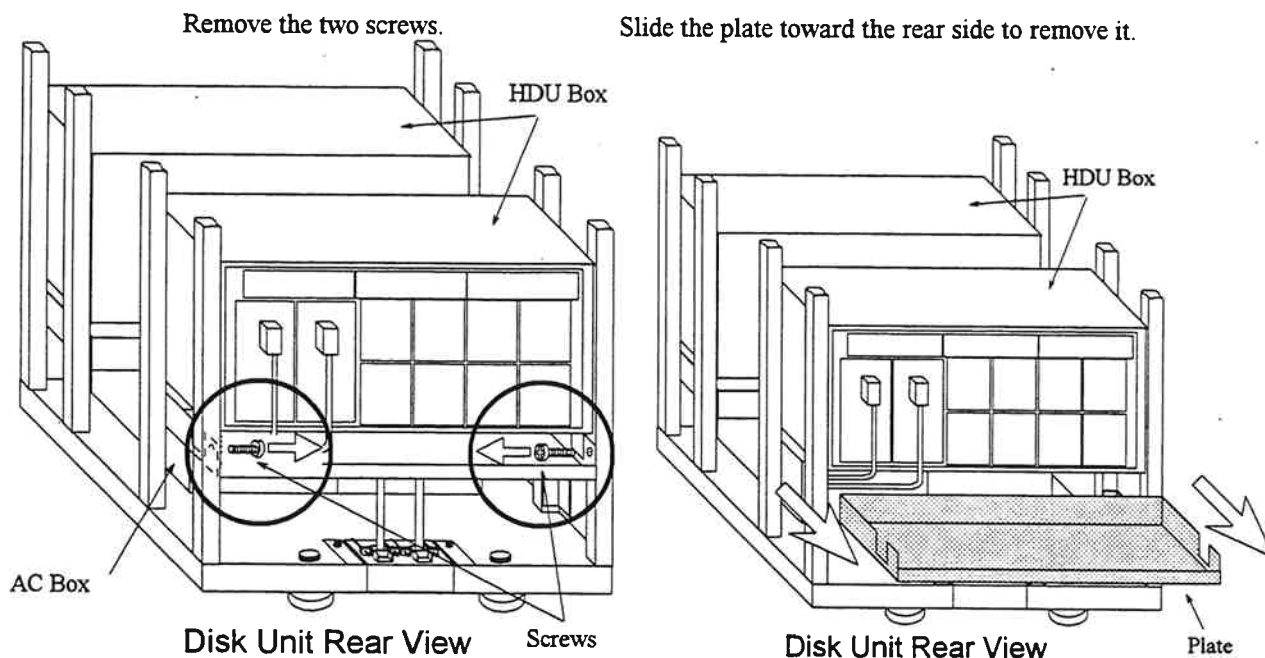

Fig. 17 Removal of Plate
- a. Remove the plate from the rear of the Disk Unit as illustrated in Fig. 17